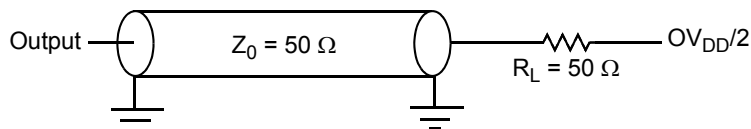

Figure 32. AC Test Load for the JTAG Interface
- All outputs are measured from the midpoint voltage of the falling/rising edge of t_{TCLK} to the midpoint of the signal in question. The output timings are measured at the pins. All output timings assume a purely resistive 50-Ω load (see Figure 32). Time-of-flight delays must be added for trace lengths, vias, and connectors in the system.
- The symbols used for timing specifications follow the pattern of $t_{\text{(first two letters of functional block)(signal)(state)(reference)(state)}}$ for inputs and $t_{\text{(first two letters of functional block)(reference)(state)(signal)(state)}}$ for outputs. For example, t_{JTDVKH} symbolizes JTAG device timing (JT) with respect to the time data input signals (D) reaching the valid state (V) relative to the t_{JTG} clock reference (K) going to the high (H) state or setup time. Also, t_{JTDXKH} symbolizes JTAG timing (JT) with respect to the time data input signals (D) went invalid (X) relative to the t_{JTG} clock reference (K) going to the high (H) state. Note that, in general, the clock reference symbol representation is based on three letters representing the clock of a particular functional. For rise and fall times, the latter convention is used with the appropriate letter: R (rise) or F (fall).